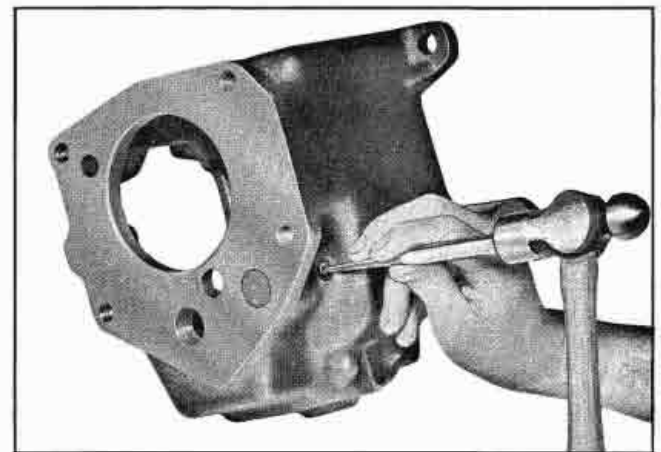

Fig. 7-37 Driving Reverse Idler Shaft Lock Pin Into Shaft
15. Tap the reverse idler shaft lock pin into the shaft (Fig. 7-37). The pin is shorter than the diameter of the shaft so the shaft may be removed when the pin is driven in.
3. From rear of case, install the idler shaft, aligning lock pin hole in shaft with hole in case (Fig. 7-37), and tap shaft in until front of shaft is flush with inner side of rear boss.